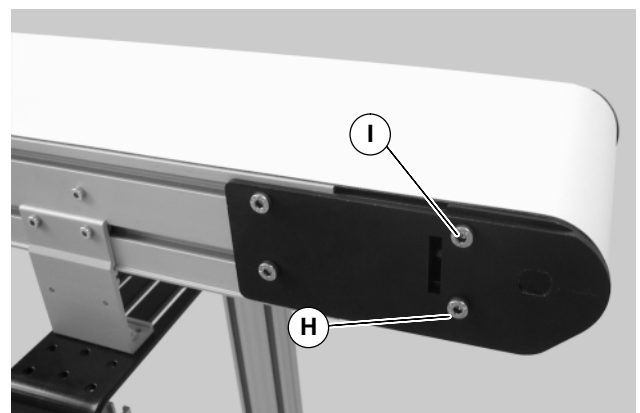
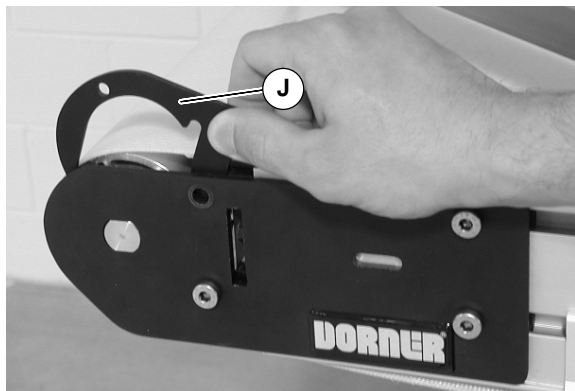

Figure 4
Figure 5
3. Loosen screw (H of Figure 4) on both sides of conveyor.
4. Remove screw (I of Figure 4) on both sides of conveyor. Remove existing spacer plates (J of Figure 5) on both sides of conveyor.